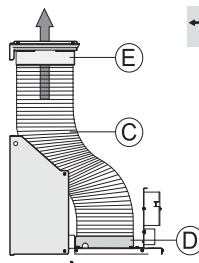

Fig. 11
- a. If using the extractor as a recirculation device or extracting through a rear wall, fit the vent cover to the wall using the remaining screws and secure in position. Fig 11